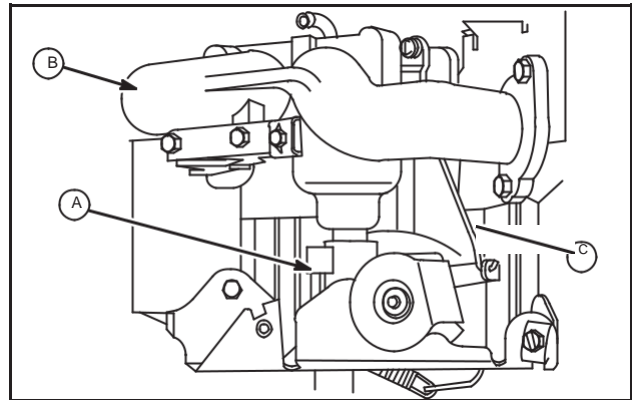

Fig. 30 – Install Intake Manifold And Carburetor
4. Install intake manifold and carburetor assembly, using new gaskets, Fig. 30.